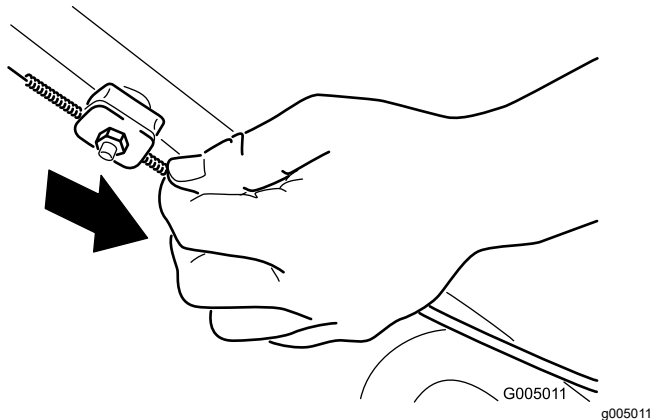

Figure 43
3. Pull down the cable jacket (toward the mower) until there is no slack in the cable (Figure 43).